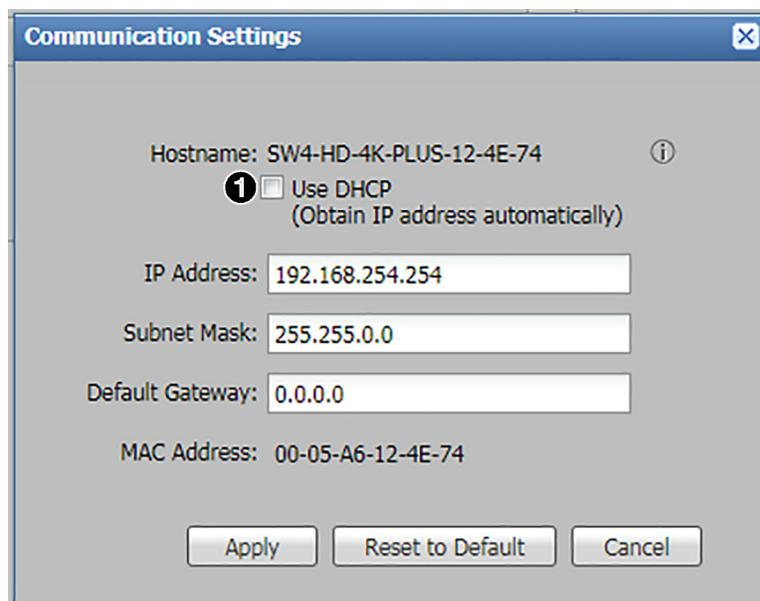

Figure 23. Communication Settings Dialog Box
1. Select the **Use DHCP** checkbox (see figure 23, **1**, on the previous page).